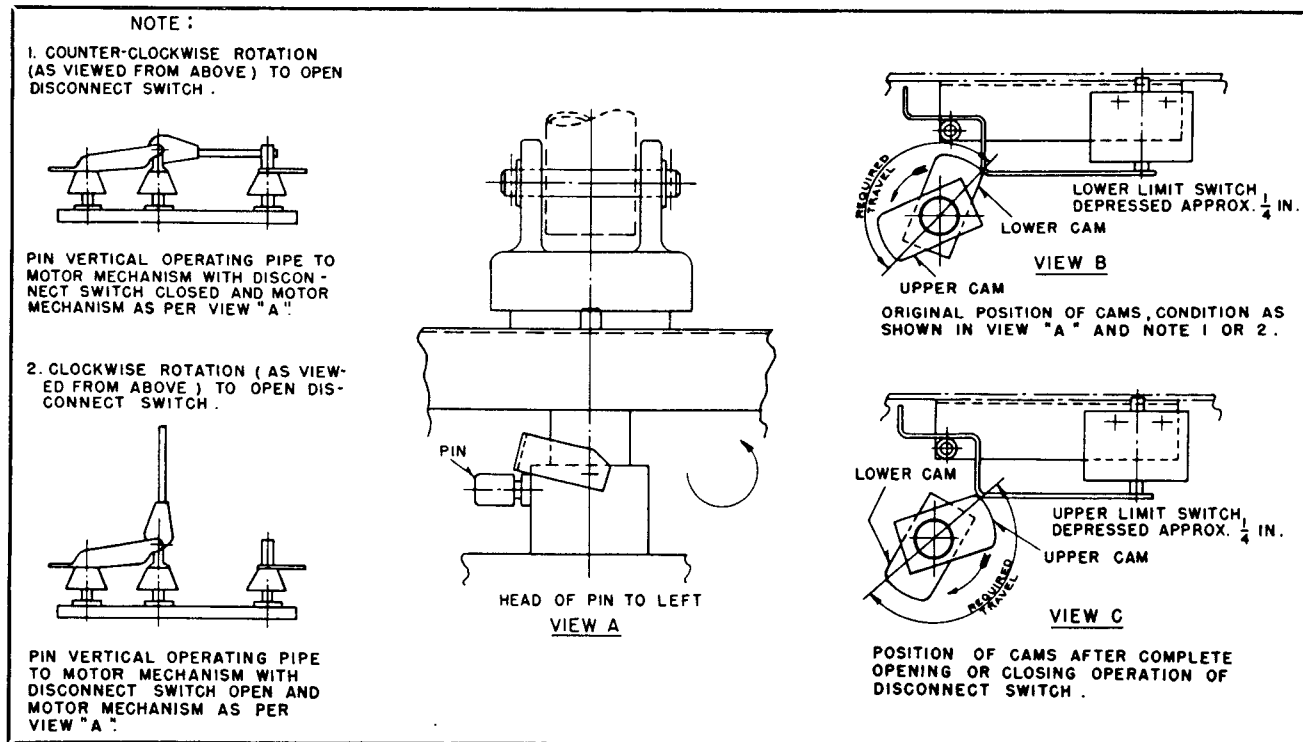

FIG. 4. Alignment of Disconnecting Switch Position for Motor Mechanism Travel
**Limit Switches.** The initial position and the angular travel of the motor mechanism output are determined by the limit switch adjustment. Fig. 4 shows the details of the limit switches and the adjustable cams. The upper cam limits counter-clockwise rotation and the lower cam limits clockwise rotation (as viewed from above).
Drill and pin the vertical operating pipe to the motor mechanism, noting the instructions in Figs. 4 and 5 for proper aligning of the disconnecting switch position for the motor mechanism travel. It is important that this be done in accordance with these instructions to permit the manual disconnecting pin to be removed during any part of the mechanism travel.
**Counterclockwise Rotation (as viewed from above) to Open Disconnecting Switch.** For counterclockwise rotation to open the disconnecting switch, the motor mechanism should be pinned to the vertical operating pipe with the *disconnecting switch closed* and motor mechanism as shown in view A, Fig. 4.
With the holes aligned as noted above, set the upper cam to depress the pushbutton as shown in view C, Fig. 4.
**Clockwise Rotation (as viewed from above) to Open Disconnecting Switch.** For clockwise rotation to open the disconnecting switch, the motor mechanism should be pinned to the vertical operating pipe with the *disconnecting switch open* and motor mechanism as shown in view A, Fig. 4.
With the holes aligned as noted above, set the upper cam to depress pushbuttons as shown in view C, Fig. 4.
**Auxiliary Switch Adjustment.** The two Type RC 4-pole auxiliary switches are so designed that the upper switch contacts all "make" when the motor mechanism position is as shown in view A, Fig. 4.